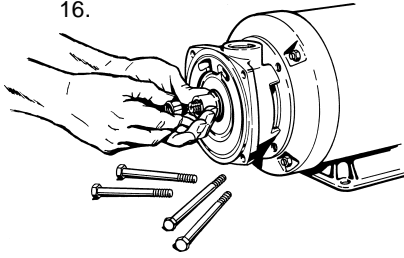

Figure 4-16
- j. While maintaining inward pressure on the hub, install the impeller nut. Refer to Figure 4-16.